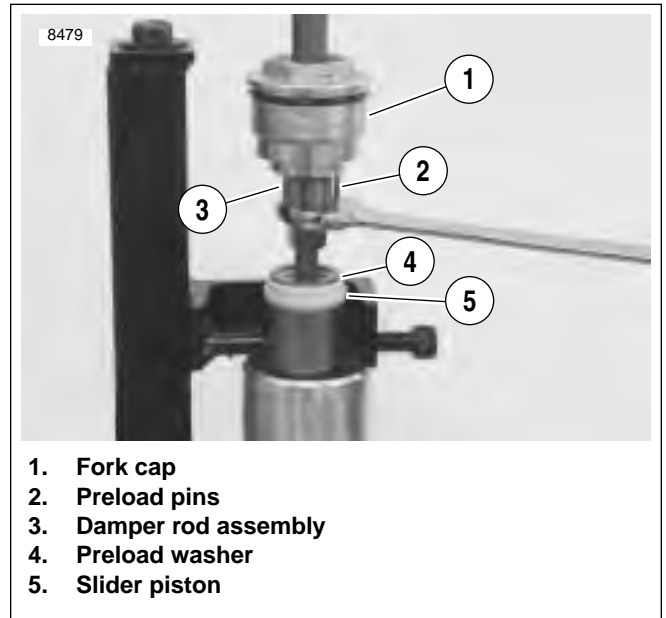

Figure 2-69. Holding Damper Rod Assembly
7. See Figure 2-69. Hold damper rod assembly (3) and remove fork cap (1).